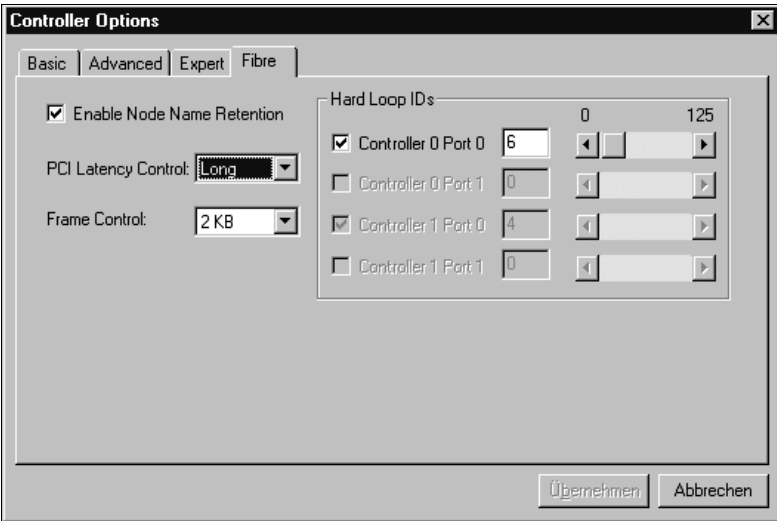

Figure 7: SAM Fibre Controller Options Dialog Box (simplex)
- Open the *Fibre* dialog box and set the parameters as shown in figure 7.